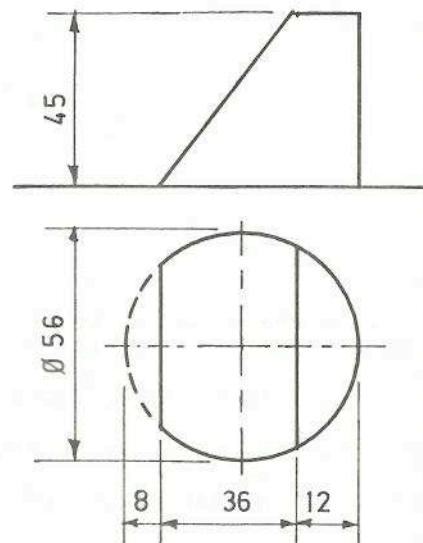

Fig. 4
- (b) The elevation and plan of a cut cylinder are given in Fig. 4.